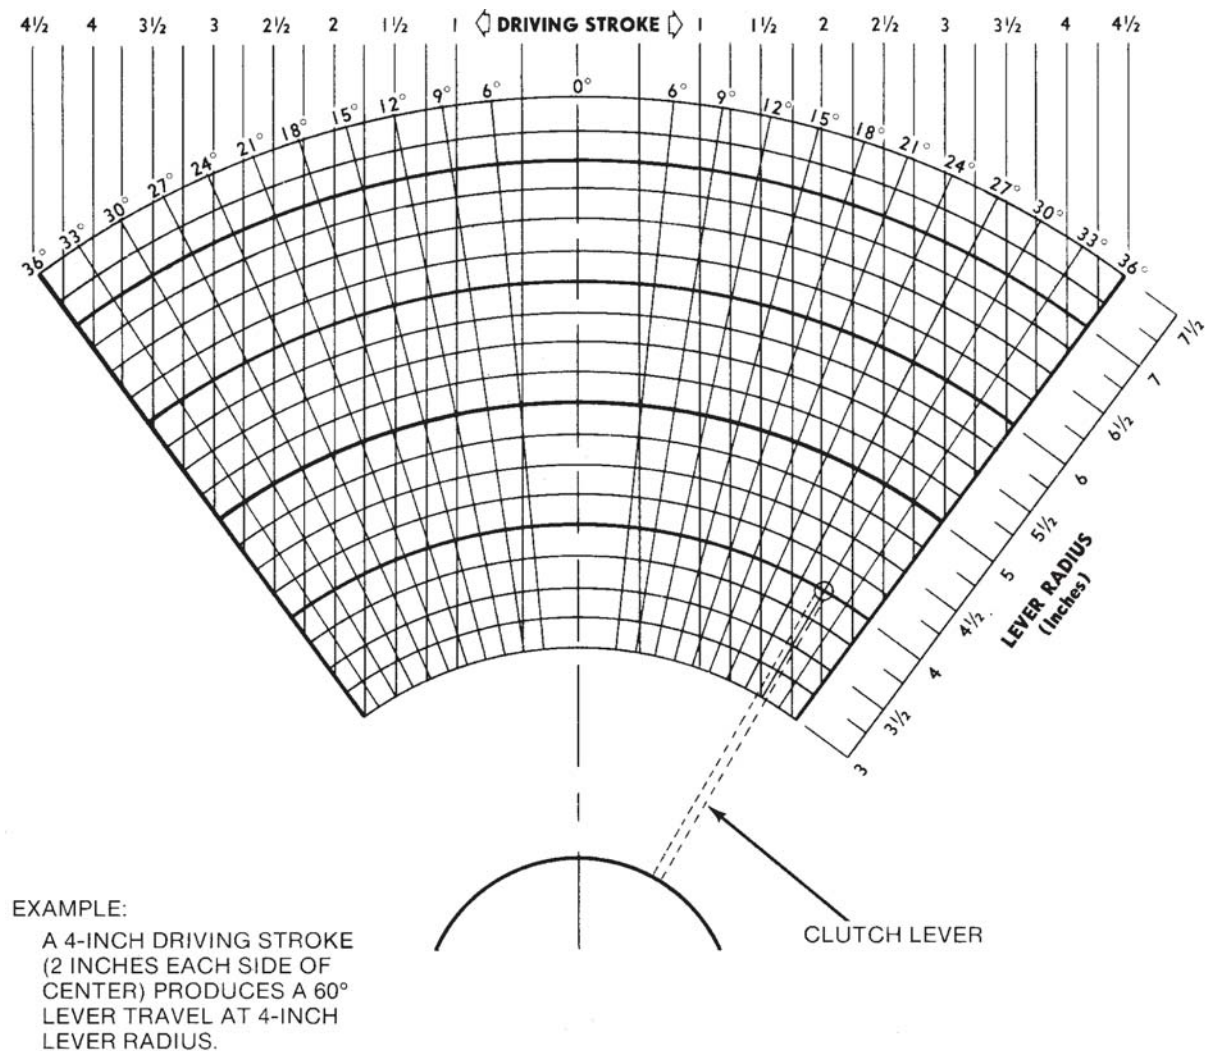

FIG. 7: Clutch Lever Diagram
Use the clutch lever diagram (FIG. 7) to determine the anticipated clutch lever throw angle.
* Degrees of Throw can be found by using clutch lever diagram (FIG. 7, page 11)